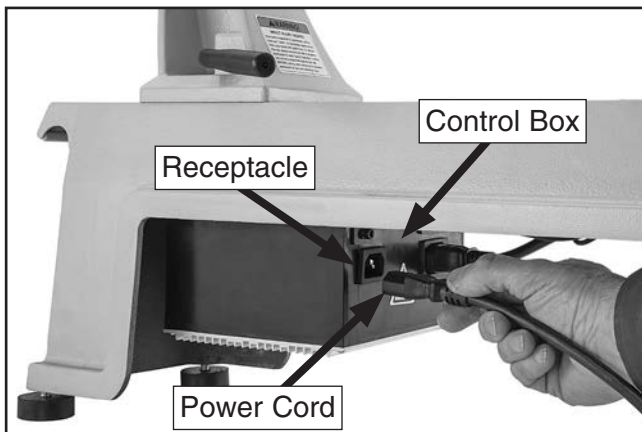

Figure 10. Installing power cord.
2. Insert end of power cord into receptacle in back of control box (see **Figure 10**).